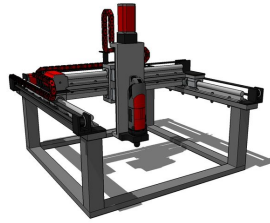

Figure 2.8: 3D printer
**3D printers:** There are open-source 3D printers based on Arduino and Raspberry Pi. Although 3D printers, shown in Fig. 2.8, are relatively slow and lack precision, they can be ideal for building prototypes by hobbyists [10].